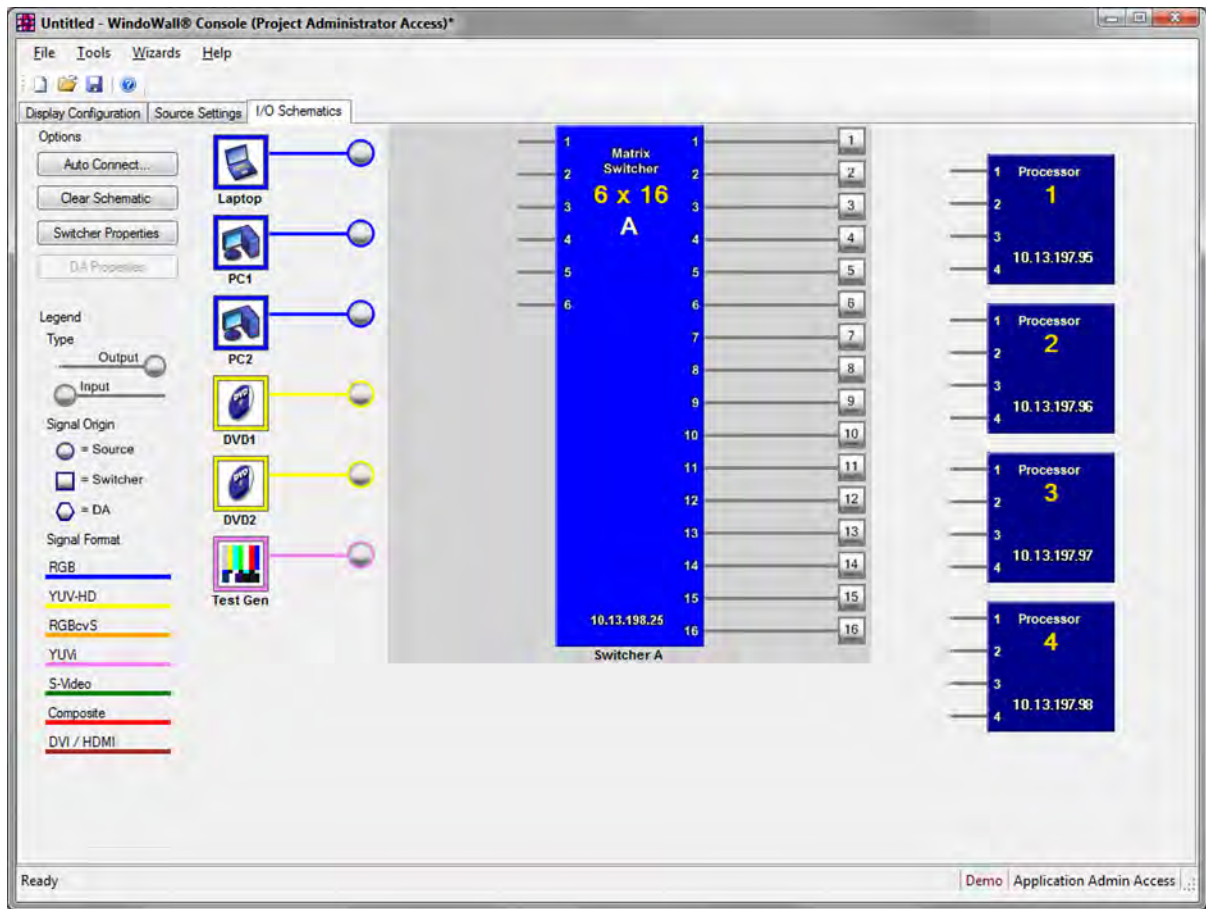

Figure 20. I/O Schematics Screen after Wizard Completion
8. On the finish ("Congratulations") screen, click **Done**. The Wizard closes, and the **I/O Schematics** screen is displayed in the WindoWall Console window (see figure 20 on the next page).